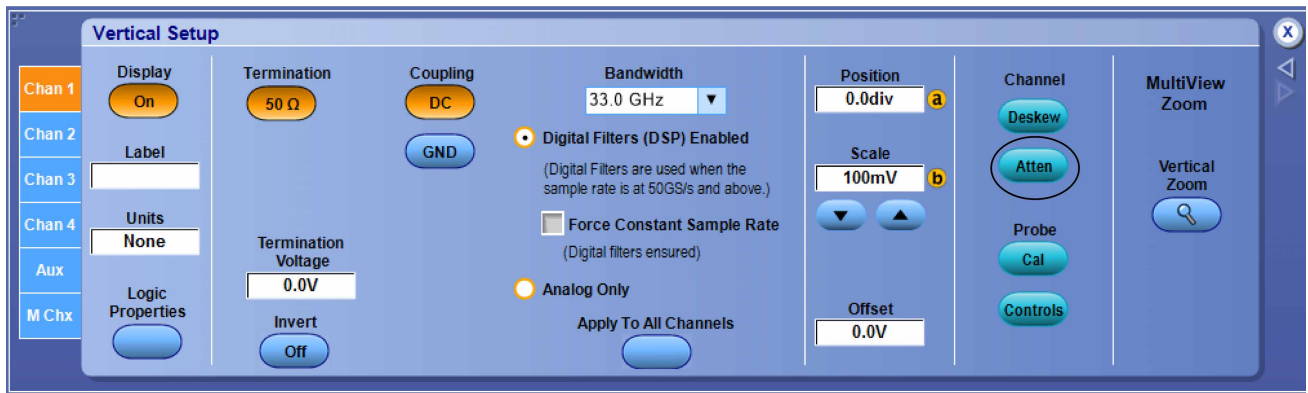

Figure 11: Vertical setup
4. If any external attenuation is connected to any channel, then set the attenuation value on the **Atten icon of Vertical Setup**, as shown in Figure 11 on page 22